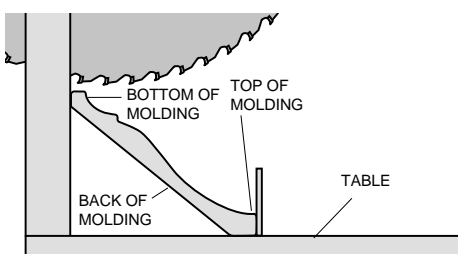

FIG. 31
Place the molding on the table at an angle between the fence and the saw table, as shown in Figure 31. Use of the crown molding fence accessory (DW7084) is highly recommended because of its degree of accuracy and convenience. The crown molding fence accessory is available for purchase from your local dealer.
1. Angle the molding so the bottom of the molding (part which goes against the wall when installed) is against the fence and the top of the molding is resting on the base of the saw, as shown in Figure 31.